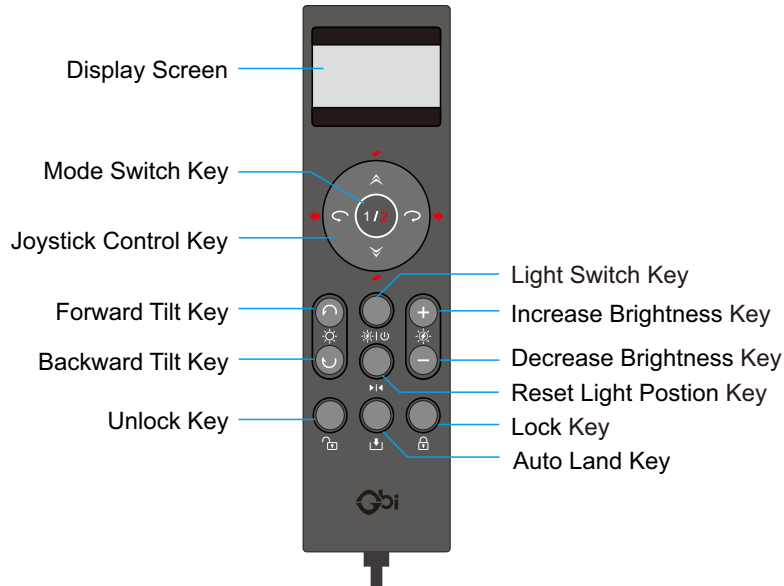

Figure 6:The Diagram Of Remote Controller Button Functions
a.The Diagram Of Remote Controller Button Functions (Refer To Figure 6)
c. The Remote Controller (Refer To Page 9,Figure 6)